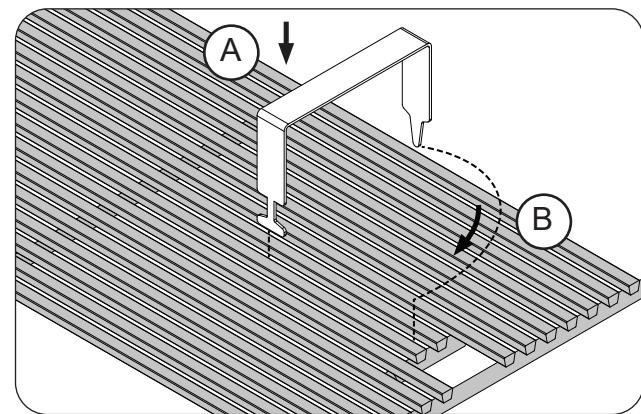
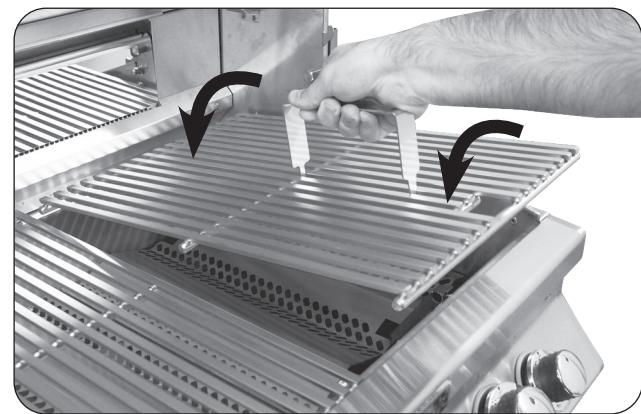

Fig. 32-1 Install cooking grids
Fig. 32-2 Install cooking grids
1. With the prongs facing downward, insert the notched-end of the lifter between two grid rods, then rotate, as shown in Fig. 32-1, A & B.
2. Insert the rear pointed-end of the lifter between the same two rods (Fig. 32-1, B) and carefully lift the cooking grid and place onto the front and rear grid rests of the grill (see Fig. 32-2). Repeat for all other cooking grids.